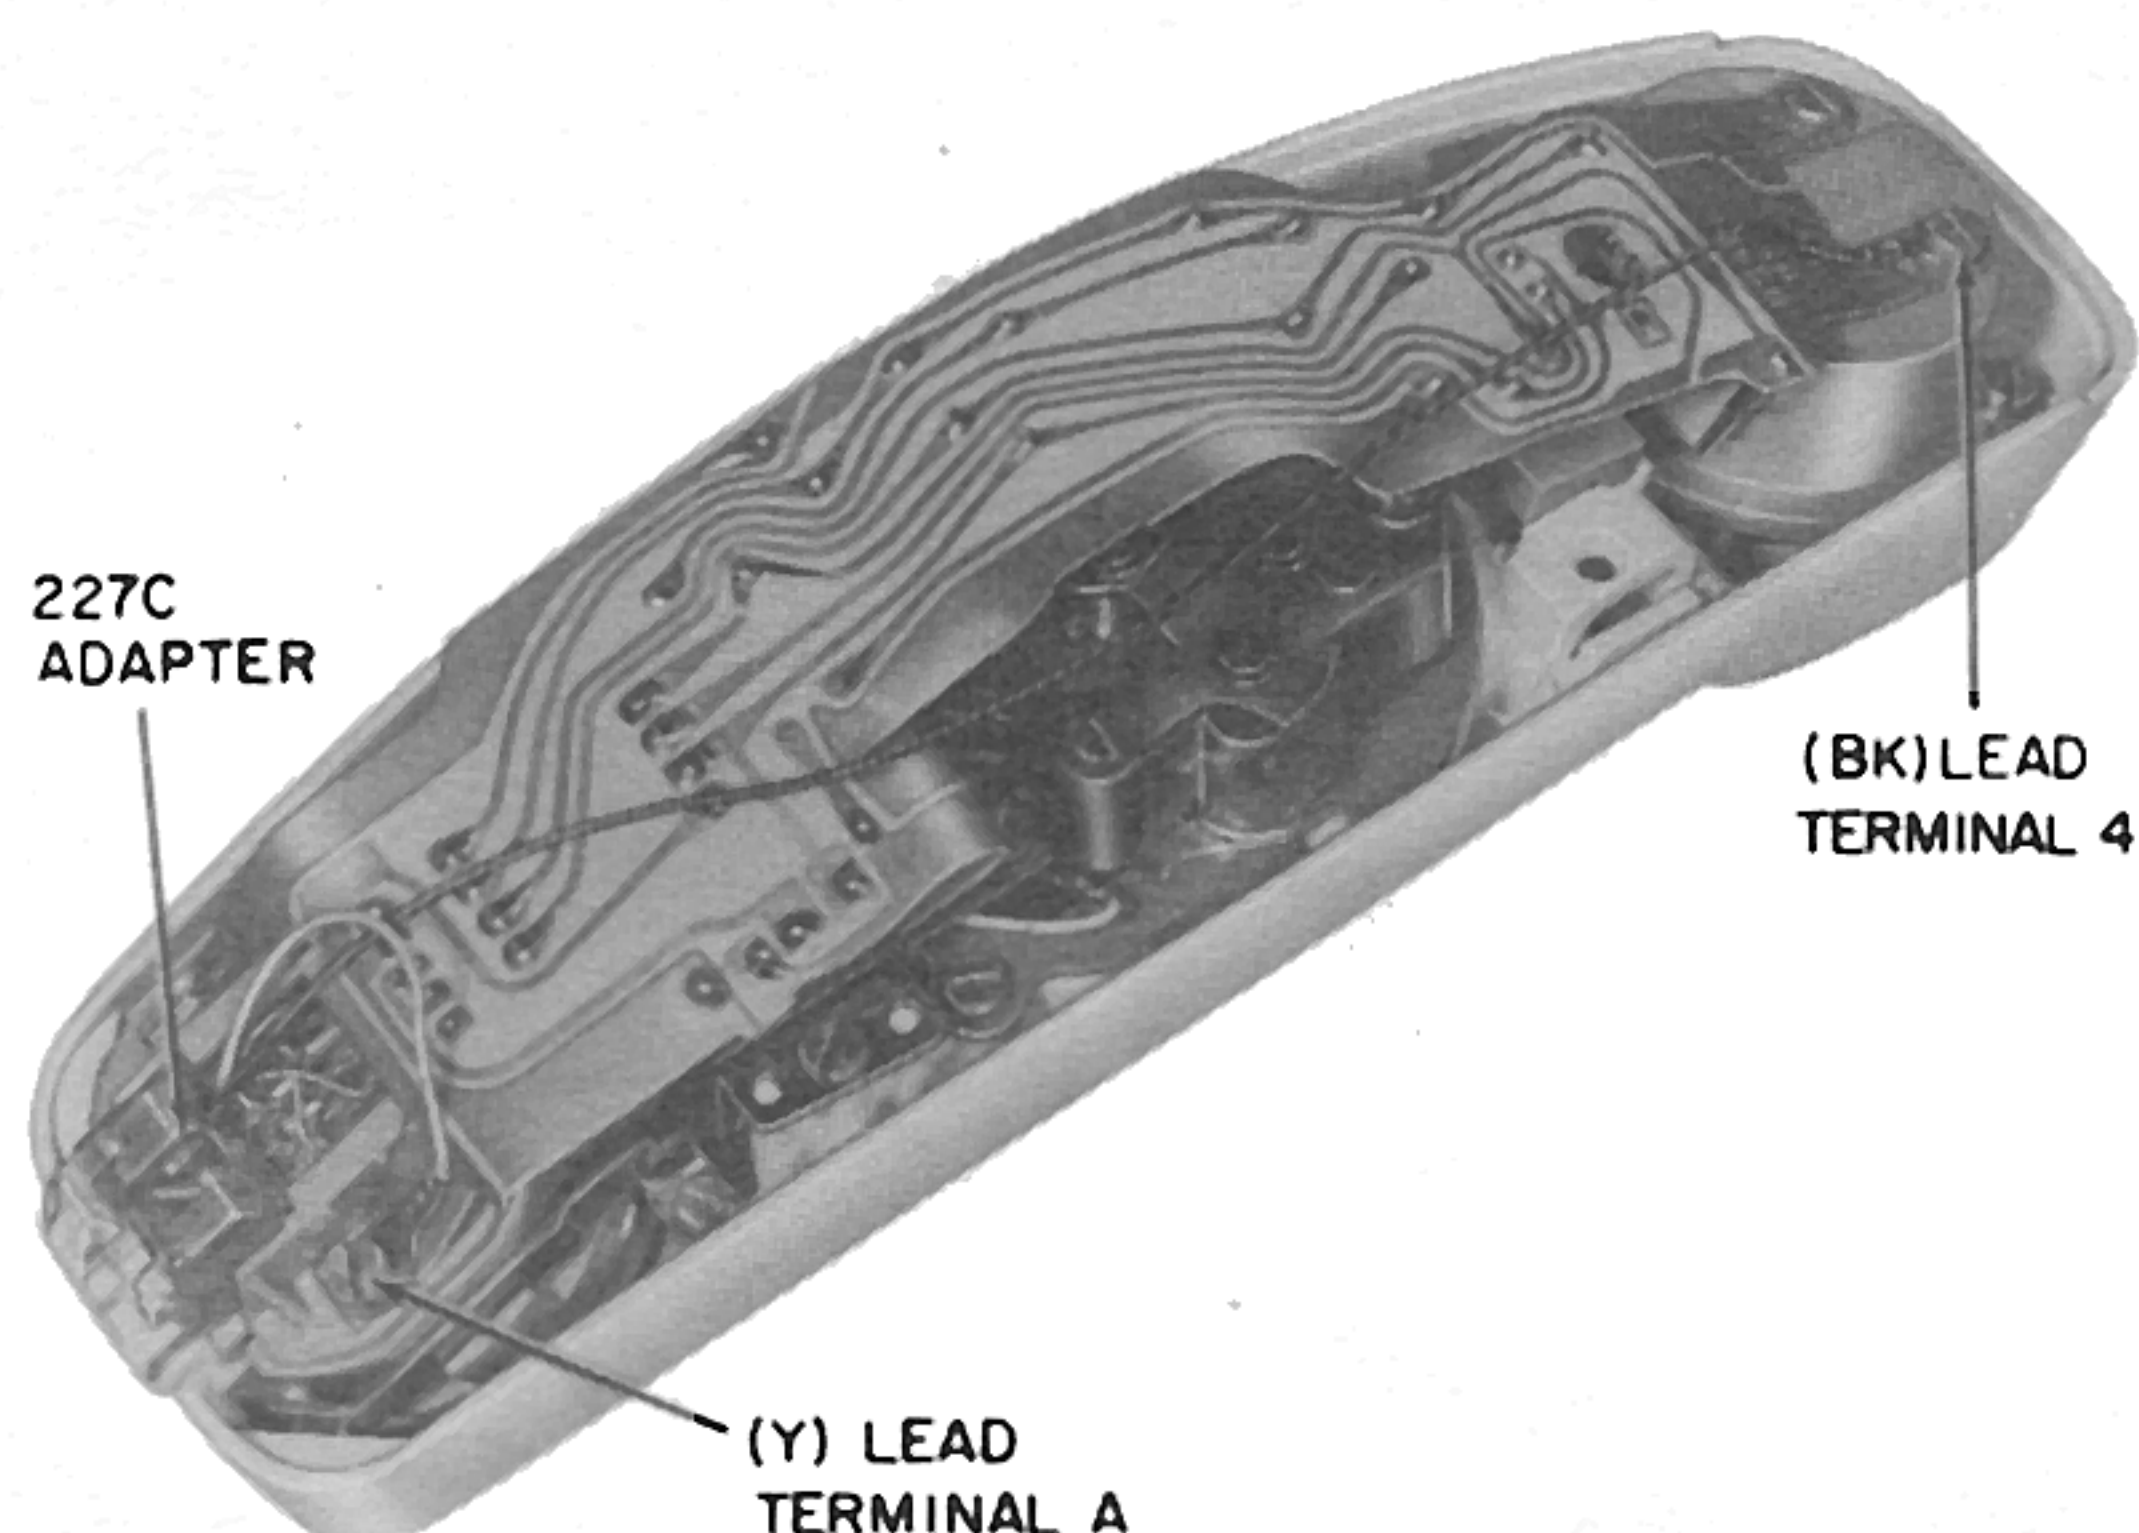

Fig. 8—D-180824 Kit of Parts Installed in 220AL Hand Telephone Set
- (1) Remove shell from handset, paragraphs 3.01 and 3.02
- (2) Remove the existing 227D adapter from the handset cord jack by grasping adapter on both sides and pulling outwards.
- (3) Install the 227C adapter from the kit of parts into the handset cord jack (Fig. 8).
- (4) Connect the (Y) and (BK) spade-tipped leads to terminals A and 4, respectively, of the network (Fig. 8).
- (5) The 840362776 terminal board, furnished in the kit, mounts in the associated telephone base, refer to Section 502-303-101 or 502-322-400 for installation and connection information.
- (6) Replace the handset shell, paragraph 3.03.